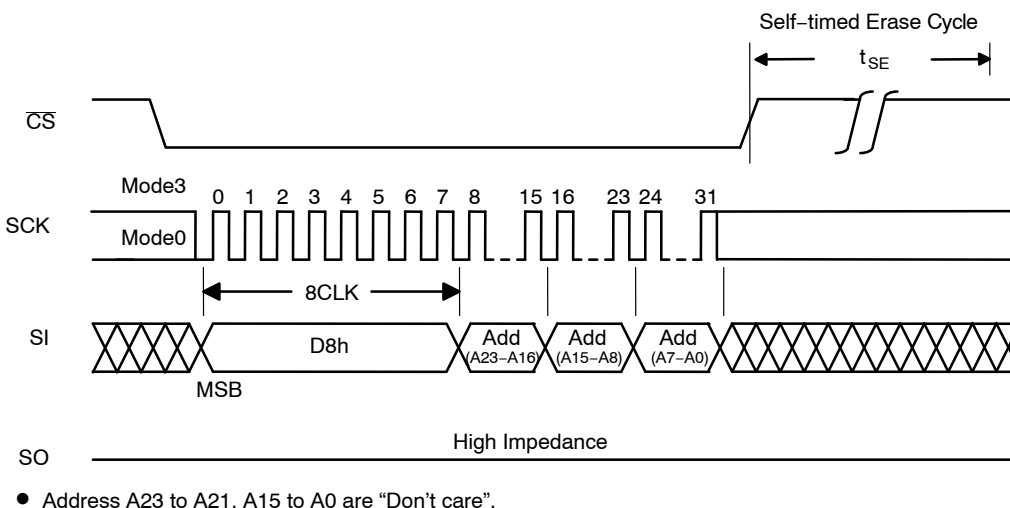

Figure 16. Sector Erase (SE)
“Figure 16. Sector Erase (SE)” shows the timing waveforms.